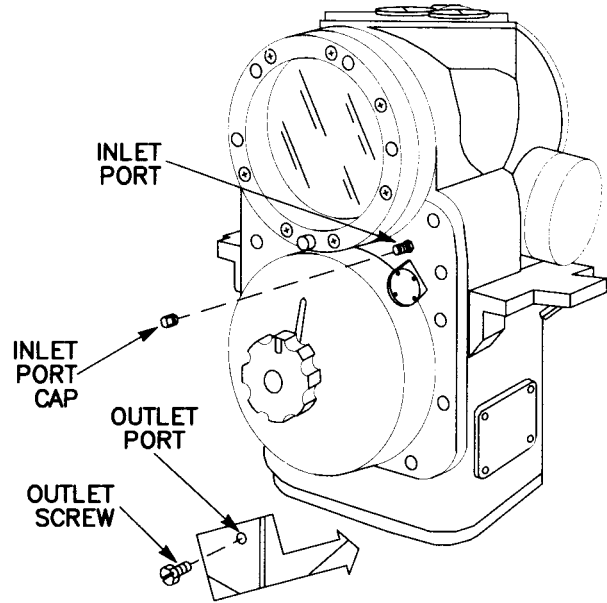

Figure 3-54 M61 Computing Sight
(1) Remove outlet plug, spring, and plunger.
(2) Perform purging procedure para 2-5.c
(3) Purge instrument at 5 psig for 5 minutes.
d. M61 Computing Sight (fig. 3-54).